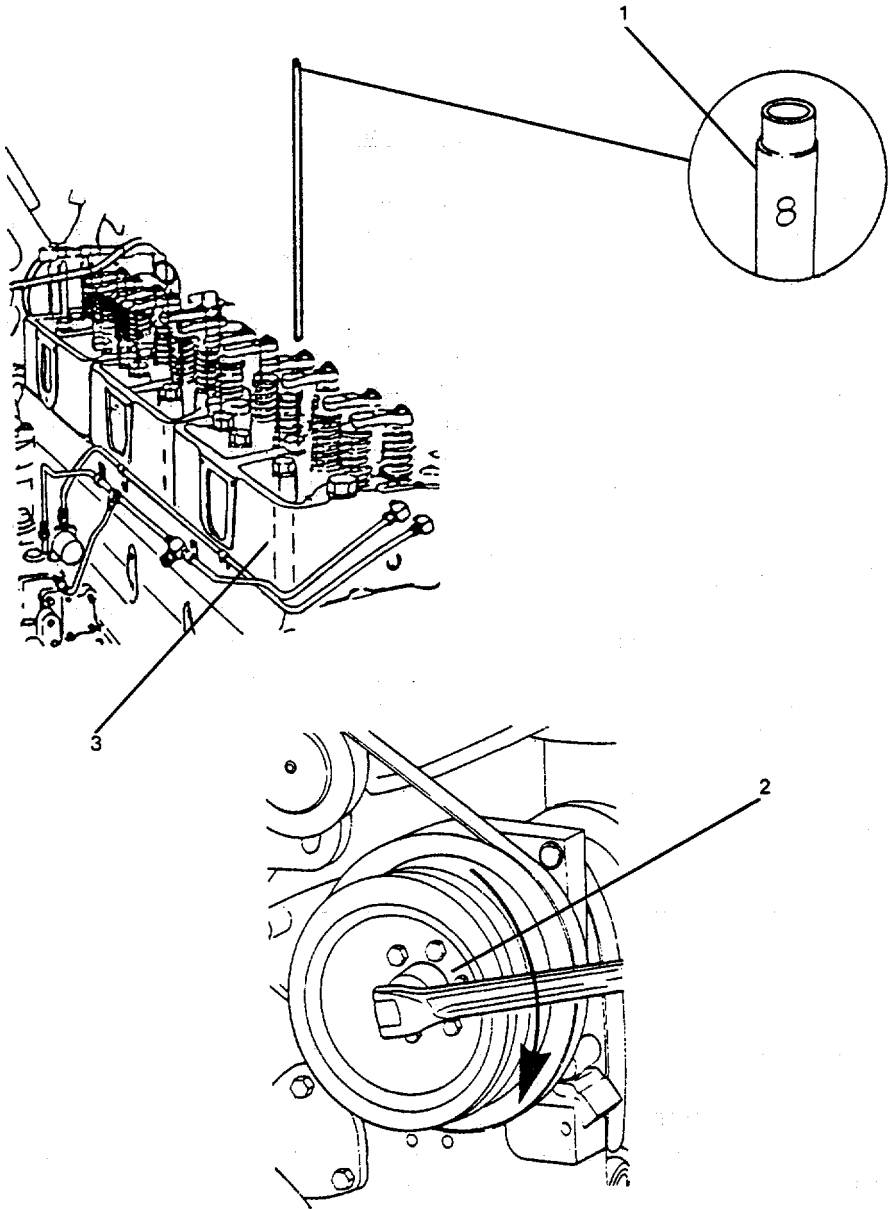

FIGURE 2-52. Push Rod Replacement.
- (1) Some push rods (1, Figure 2-52) are under compression due to the valves being open. Rotate the crankshaft with the accessory drive pulley (2) to relieve the spring tension.
- (2) To prevent increased wear, mark each push rod (1) as it is removed to identify its location in the engine.
- (3) Lift the push rods (1) from the cylinder head (3). Store push rods where they will not be damaged.
- (1) Tighten to 25 ft-lb (34 N•m) torque.
- (2) Tighten to 100 ft-lb (136 N•m) torque.
- (3) Tighten to 285 ft-lb (387 N•m) torque.
- i. Install fuel crossover connections (9, Figure 2-52) with preformed packing (8) and secure with assembled washer screws (10).
- (1) Use clean engine oil to lubricate the ball end of the push rods(1, Figure 2-52).
- (2) Install the push rods in the corresponding numbered location.
The crankshaft must be rotated clockwise to the accessory drive pulley (2, Figure 2-52) to install all the push rods.